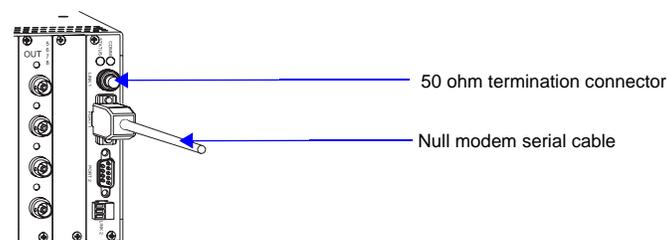

FIG. 10 Attach null modem serial cable
1. Plug the null modem cable into the serial port on the enclosure (see FIG. 10).